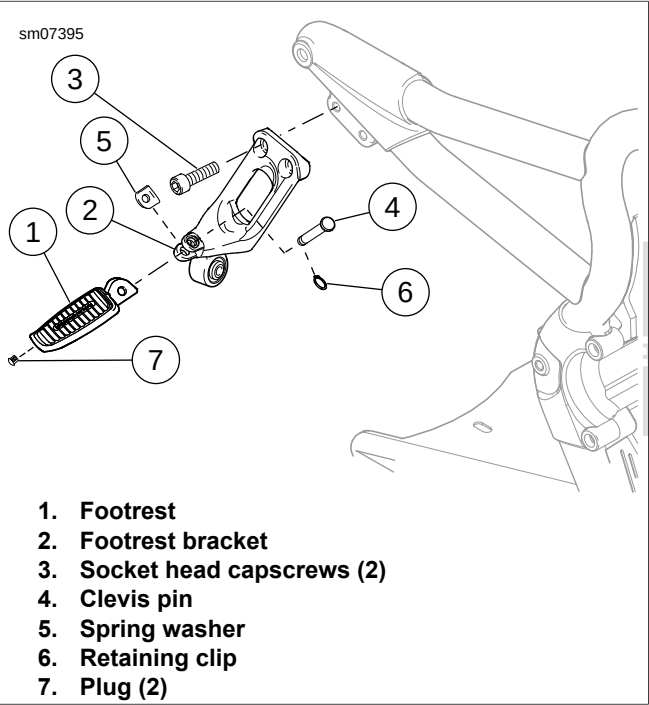

Figure 2-19. Passenger Footrests
1. See Figure 2-19. Remove retaining clip (6) and spring washer (5) from clevis pin (4), holding footrest (1). Remove clevis pin, and footrest from footrest bracket (2).
2. Remove two socket head capscrews (3) from footrest bracket (2). Remove footrest bracket.
1. See Figure 2-19. Mount the footrest bracket (2) to frame using socket head capscrews (3). Tighten to 55-70 Nm (40-52 ft-lbs).
2. Install footrest (1) to footrest bracket and hold in upward position.
3. Install clevis pin (4) through footrest bracket (2), install spring washer (5) and secure with a retaining clip (6).